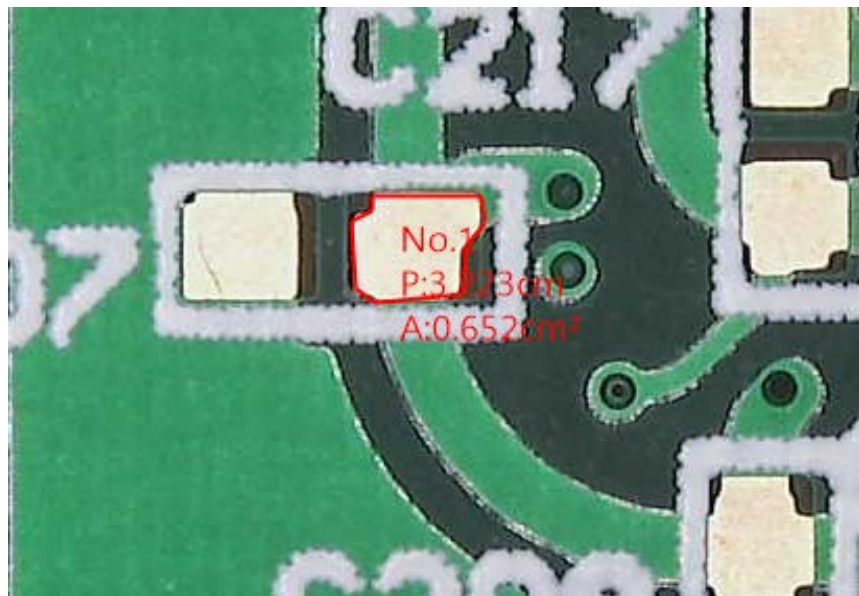

Fig 5-28 Measure Polygon
(17) Polygon : A polygon is a shape that is made up of many sides and has only line segment. See Fig 5-28, follow the shape and left click on each angle, right click on the last point; the last point will link to first point to make a polygon.